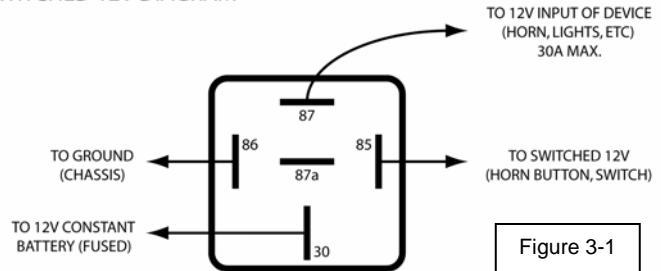

Figure 3-1
- Replace Factory Horn Relay (Figure 3-1)